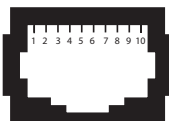

Fig. 2 Remote Control RC-300 - Pinout of Modular Jack RJ-50
The pinout of the RJ-50 Modular Jack (7) at the back of the RC-300 is given at Fig. 2 below: